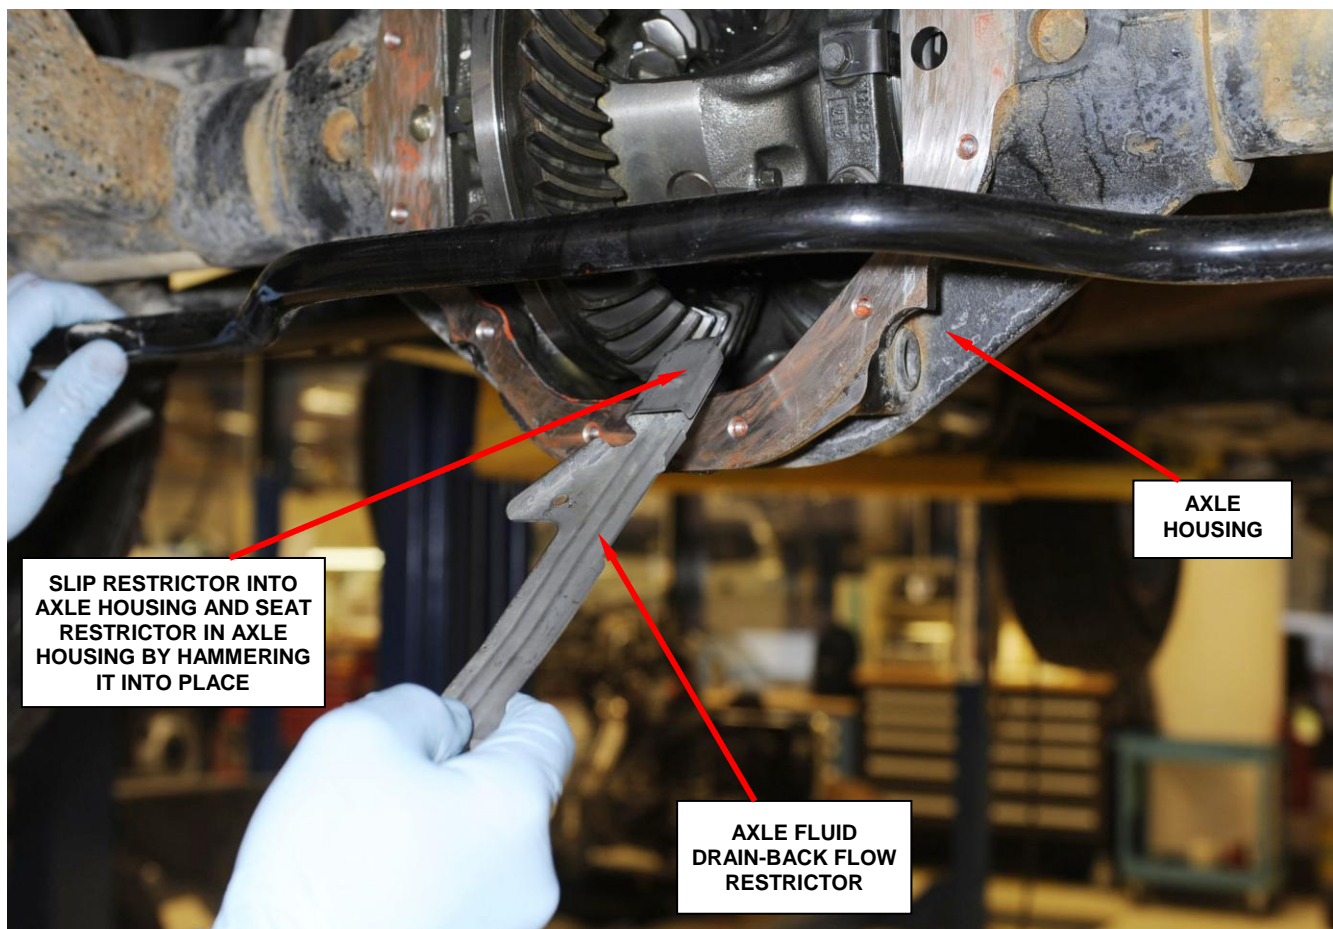

Figure 3 – Axle Fluid Drain-Back Flow Restrictor Installation Orientation
- Using a dead blow hammer, install the axle fluid drain-back flow restrictor into the axle housing drain-back channel. Rotation of the pinion may be required to allow the axle fluid drain-back flow restrictor to clear the pinion teeth (Figures 3 and 4).